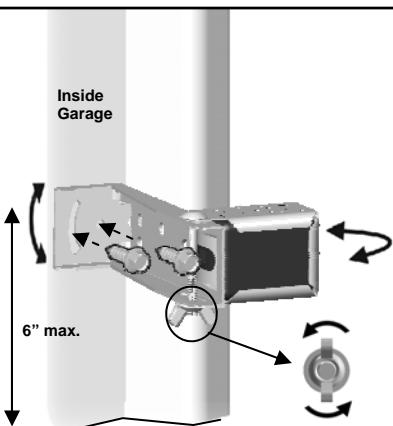

Fig. 1 (Wall Mount)
1. Place the Photo Eyes facing each other on each side of the garage door. Position the sensors so they are no higher than 6" (15cm) above the floor, as shown in Fig.1.
3. If necessary use the Optional Wall-mount Position (Fig.1) to better fit your door-track and improve obstacle avoidance. To adjust the position, loosen the wing nut, disassemble the Bracket and move the Photo Eye to the lower position on the holder.